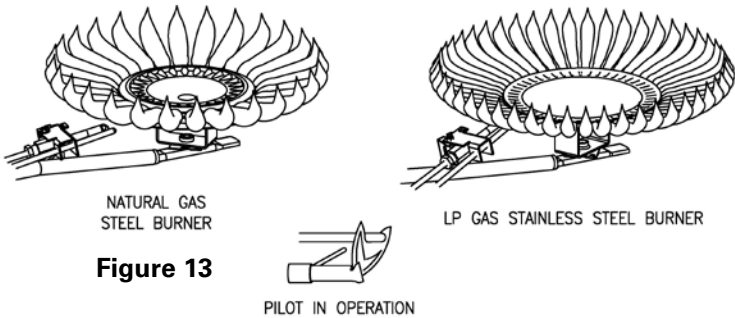

Figure 13
At the time of installation and at periodic intervals (not more than six (6) months), a visual check of the pilot and main burner flames should be conducted. The flames should be similar to those pictured below. The main burner should light smoothly from the pilot. (See Figure 13).